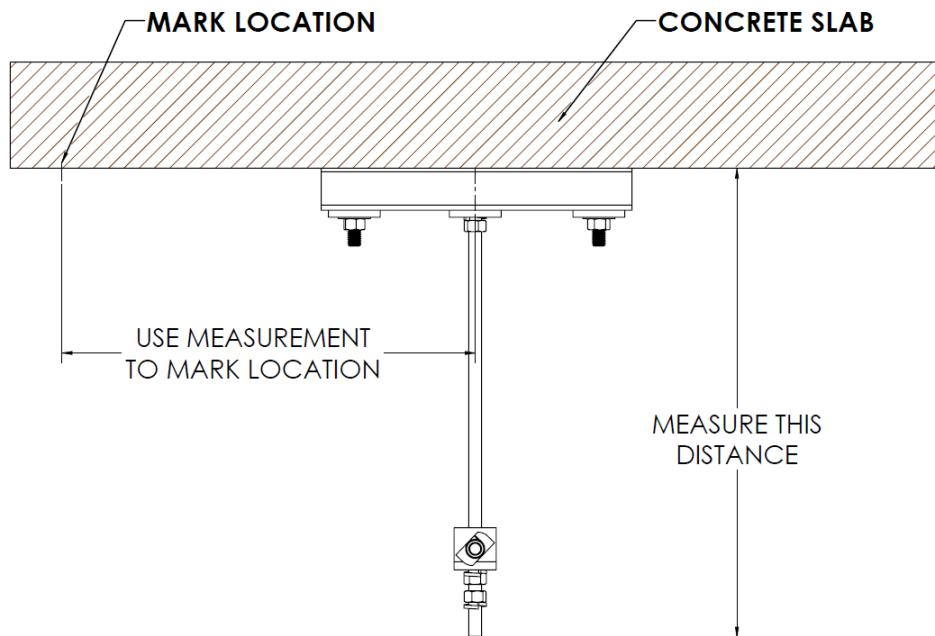

Figure 262: **Mark the Location on the Concrete Slab**
b. Use that measurement and measure horizontally on the concrete slab from the threaded rod and mark that point (Figure 262).